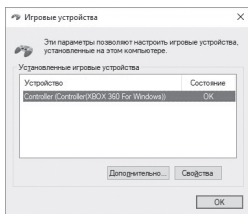
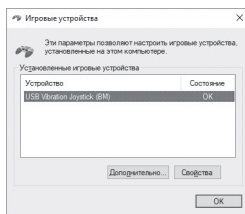

Fig. 6
Fig. 7
- Connect the gamepad via USB cable ⑩ to an available USB port of your PC.
- In order to test and configure the gamepad, choose «Control Panel» → «Devices and Printers», in the Windows control panel (in the «XInput» mode, the gamepad is displayed as «Xbox 360 Controller for Windows», in the «DirectInput» - «USB Gamepad»), then right-click on the device icon and select. Gaming device parameters (administrator rights may be required) (Fig.4.5). The «Game devices» window will appear. In Xinput mode, the gamepad is displayed as «Controller (XBOX 360 For Windows)» (Fig. 6), in the «DirectInput» mode - «USB Vibration Joystick (BM)» (Fig. 7). To switch between the «DirectInput» and «XInput» modes, switch the ⑭ switch to the appropriate position.